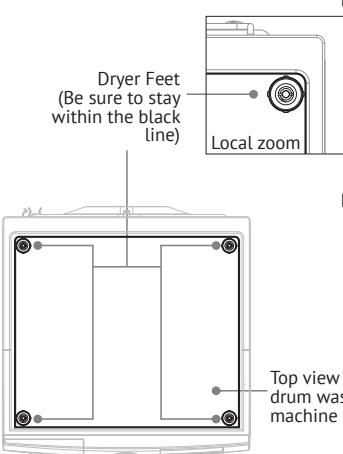

Figure 3: Schematic diagram of dryer foot position
- The dryer and washer should be adjusted so that the front and sides of both are flush, while making sure that the feet of the dryer fall on the large flat surface of the washer's top flap (As shown in Figure 3), and avoiding the feet of the dryer resting on the side strips of the washer's top flap.